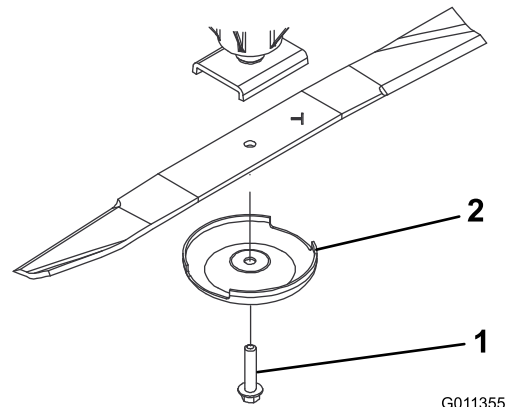

Figure 124
- Remove the blade bolt, anti-scalp cup, and blade from the spindle shaft (Figure 124).